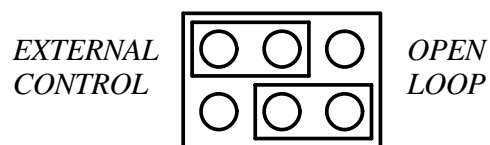

Figure 9.3: Switch Position for Closed Loop Operation
- Setup the control selection as in Fig. 9.3.